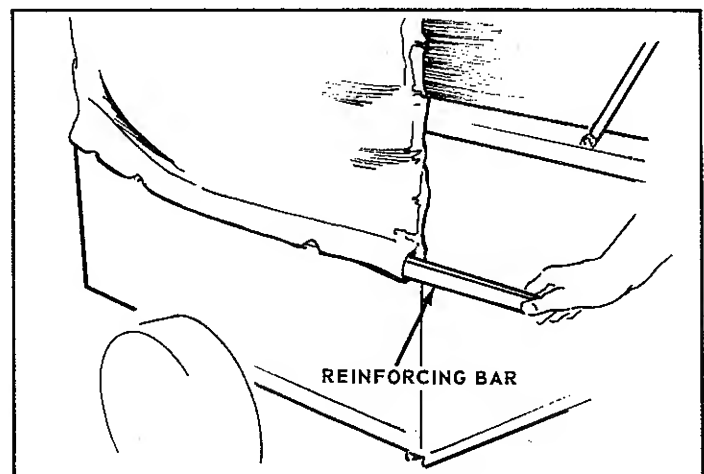
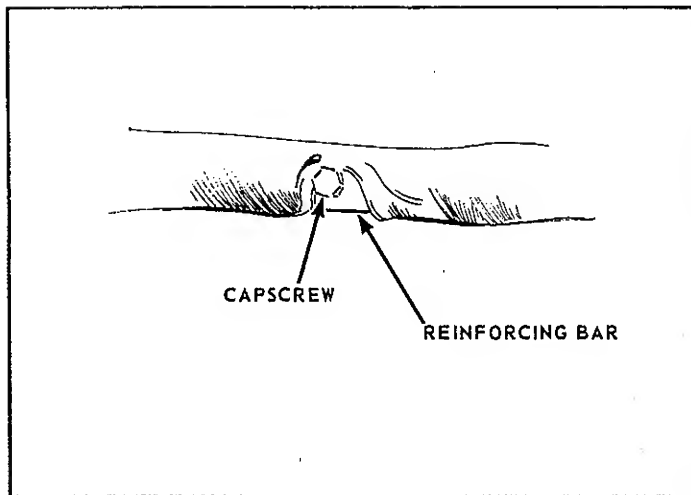

FIGURE 4
FIGURE 5
D. Figure 4 shows the insertion of the side reinforcing members into the slots at the sides of the canvas enclosure. Secure these in place on both sides as shown in Figure 5, with the capscrews and attaching hardware provided.